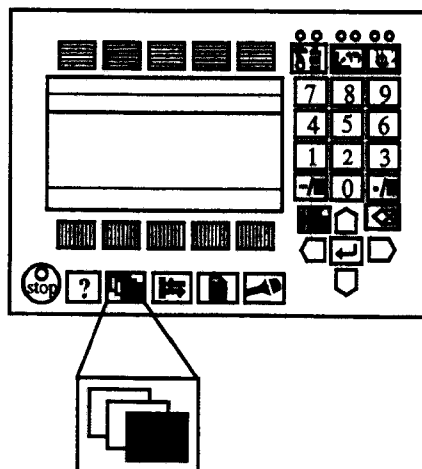

Figure 15 The Misc. window key from which the Service window can be selected
1. Press the **Misc.** window key (see Figure 15).